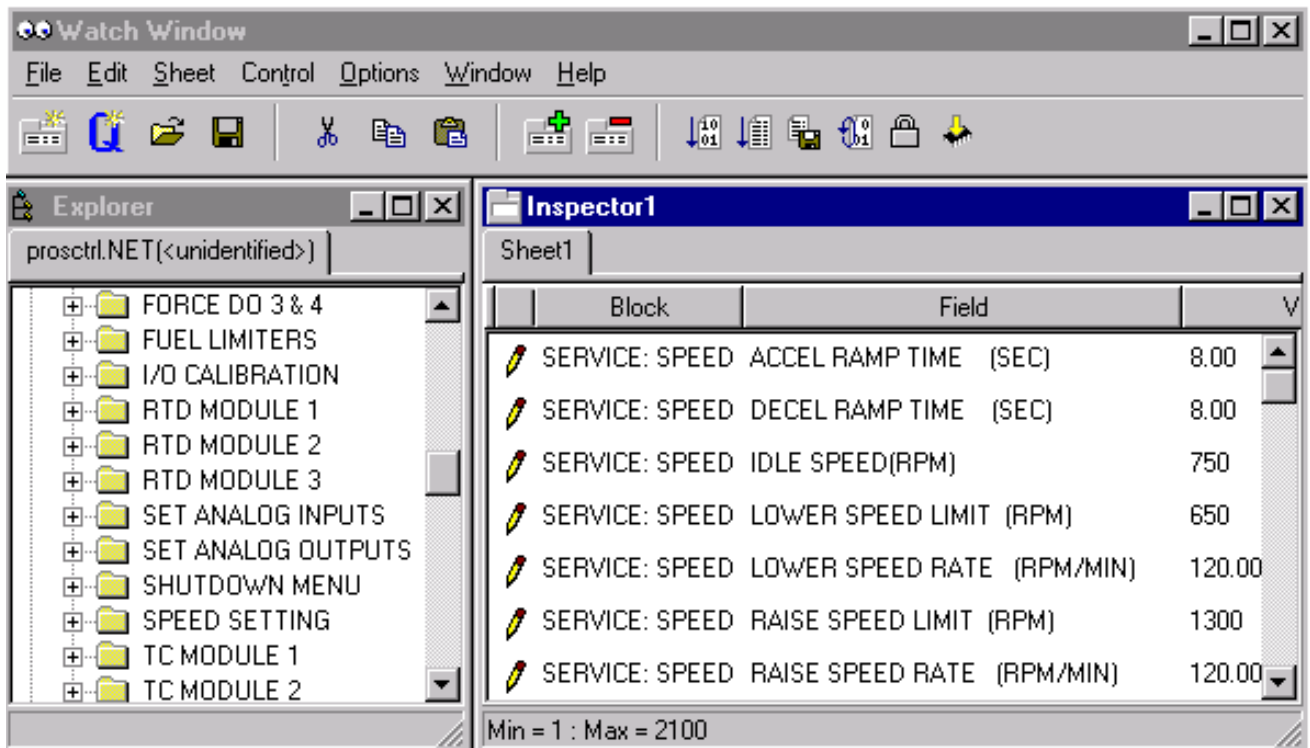
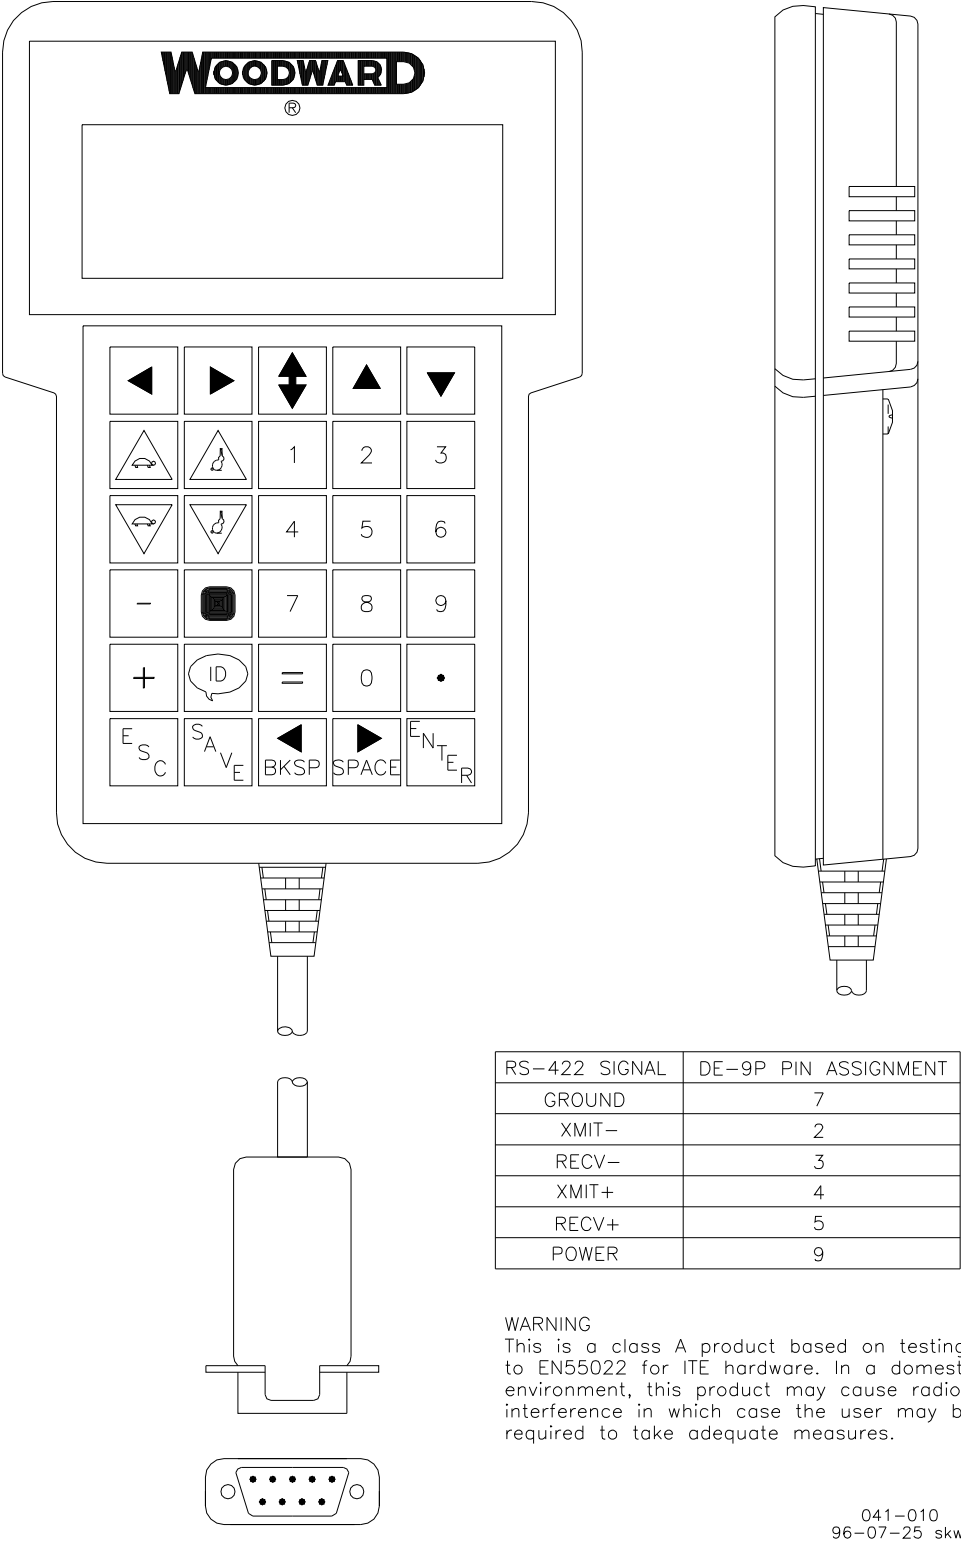

Figure 1-3. Watch Window Display
Figure 1-4. Hand Held Programmer
- Servlink Watch Window (Figure 1-3) or a hand held terminal (Figure 1-4) for adjusting control parameters
PC based Watch Window software (part number 8923-932) and a Hand Held Programmer (part number 9907-205) are used for monitoring and adjusting software parameters of the 723PLUS control, including the software options. They plug into communication port J1 of the control. [Hand Held Programmer part number 9905-292 can also be used.] See Figures 1-3 and 1-4.